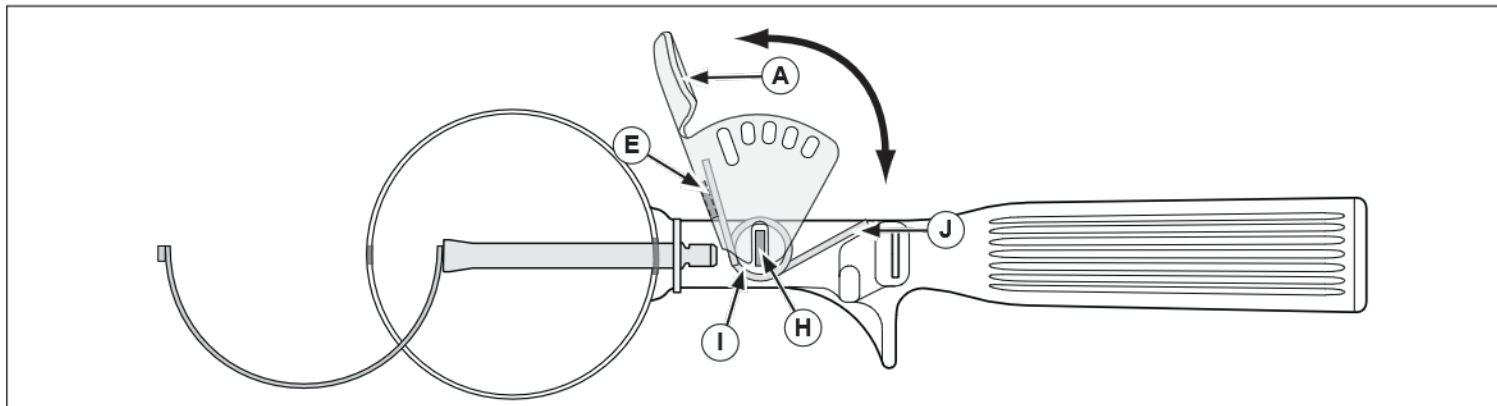

Figure 5. Pivot Rack
- Slowly release the gear rack (A) allowing it to return to the normal ready position. See Figure 5.
- Slide the pivot rack (A) onto the post (H). See Figure 5. Position spring so that it sets against the spring stop (J) and the spring tab (E) as shown.
- Slowly release the gear rack (A) it to return to the normal ready position. See Figure 5. Your disher is now ready for use.